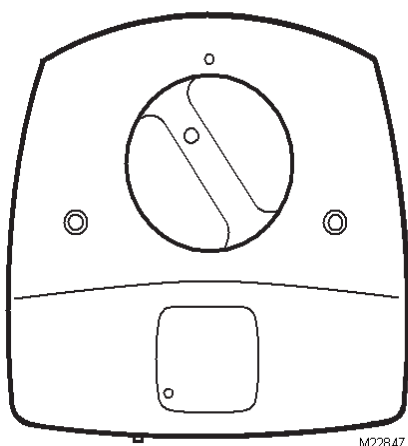

Fig. 4. Position lamp handle for insertion back into the lamp base.
7. Insert the lamp handle into the base with the lamp light indicator at the eleven o'clock position. Continue pushing and gently rotating counterclockwise until the lamp inserts fully into the base. See Fig. 4.